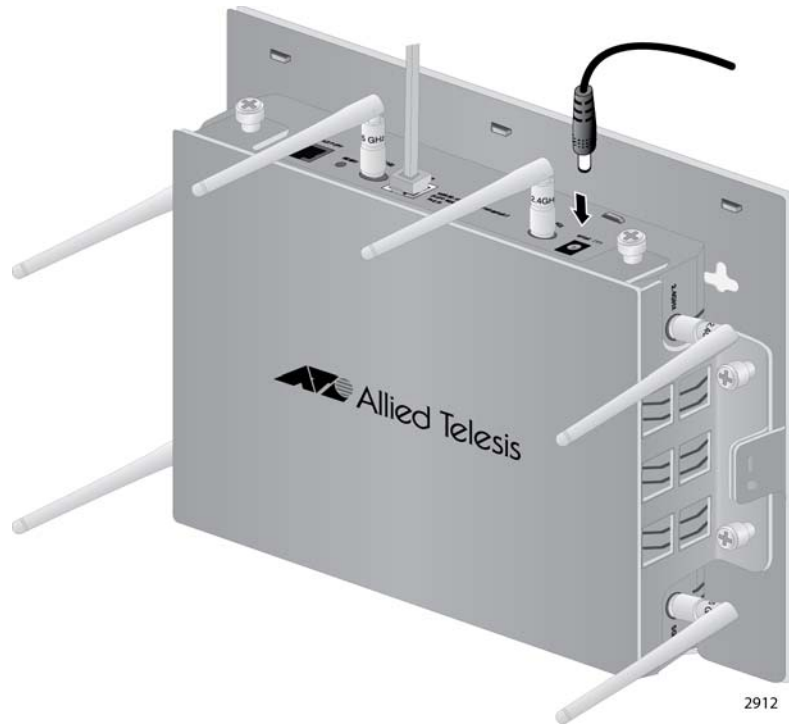

Figure 27. Attaching the DC Power Cable
10. Connect the DC cable on the AC/DC adapter to the 12VDC connector on the access point. Refer to Figure 27.